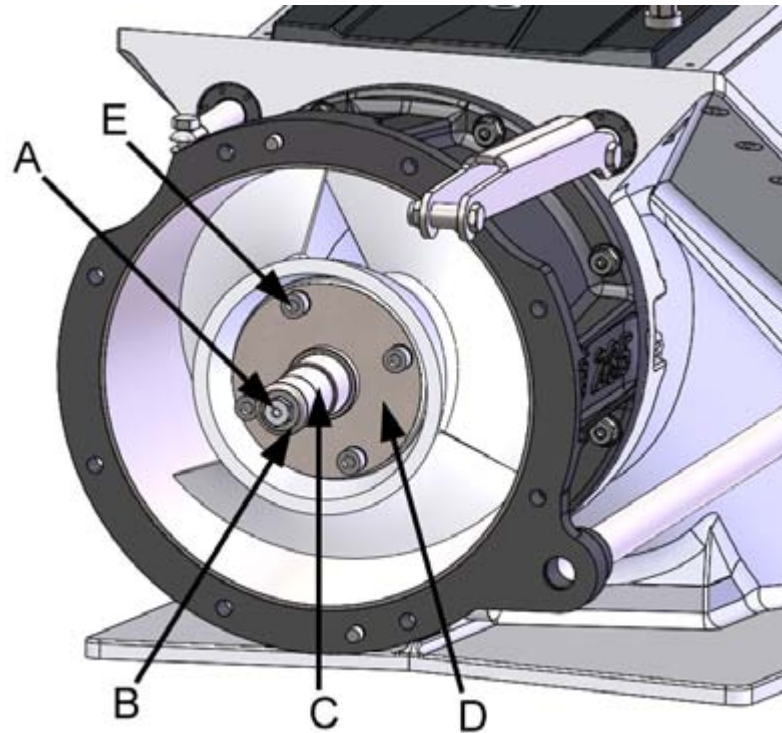

Figure 30. Impeller fastening screws, locking plate
4. Unscrew the screw located at the end of the shaft (figure 30, point A) and remove the locking plate (figure 30, point B).
5. Remove the impeller from the shaft together with the sleeve (figure 30, point C), and the mounting flange (figure 30, point D).
Locking plate: Attach the mounting flange to the impeller hub and tighten the screws evenly (figure 30, point E, 4 pcs). The tightening torque is 50 Nm.
Locking plate: Fit the sleeve on to the shaft against the impeller mounting flange (figure 30, point D) and the locking plate on to the end of the shaft, and tighten it with the screw (figure 30, point A). The tightening torque is 50 Nm.